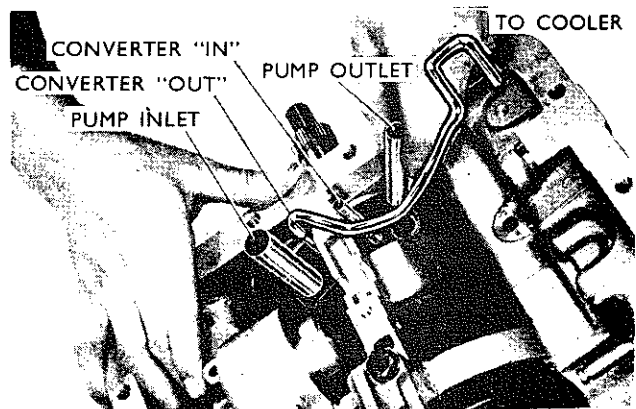

Fig. 29—Location of oil tubes, front of transmission
(5) Disengage the valve body assembly from the 3 supply tubes at front of the transmission — (Refer Fig. 29).
(6) Remove the pump intake tube O-ring (from the tube or recess in converter support).